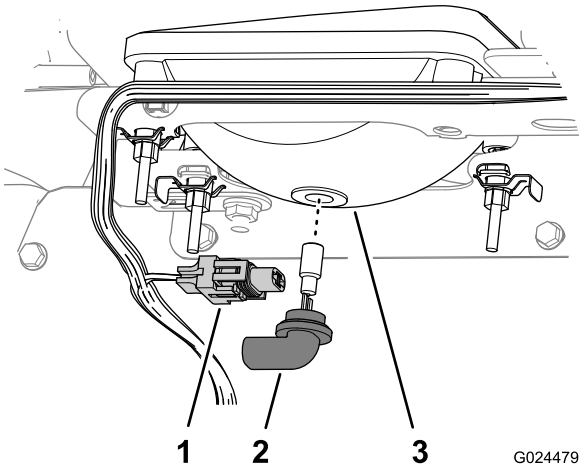

Figure 40
3. Disconnect the electrical connector for the harness from the connector of the lamp assembly at the back of the headlight housing (Figure 40).
4. Rotate the lamp assembly 1/4 turn counterclockwise and moving it rearward, out of the headlight housing (Figure 40).
5. Insert the new lamp assembly and headlight housing and align the tabs in the lamp assembly with the slots in the headlight housing (Figure 40).
6. Secure lamp assembly by turning it 1/4 turn clockwise (Figure 40).
7. Connect the electrical connector for the harness to the connector of the new lamp assembly (Figure 40).